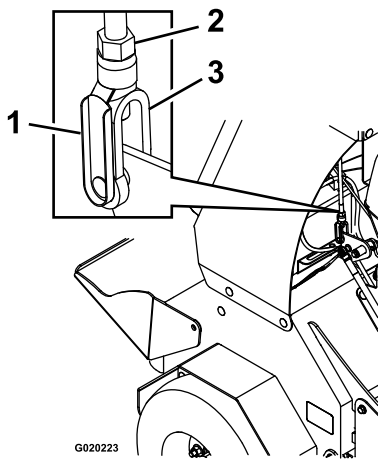

Figure 53
- B. Remove the spring-clevis pin from the fork fitting of the traction-control linkage (Figure 53).
- F. Remove the spring-clevis pin, rotate the turnbuckle clockwise 1 additional turn, and insert the spring-clevis pin (Figure 53).
- If the control lever **contacts the reference bar**, rotate the fork fitting (Figure 53) counterclockwise (as viewed from the top of the machine).
- If the control lever **does not contacts the reference bar**, rotate the fork fitting (Figure 53) counterclockwise.
- D. Install the spring clevis pin (Figure 53) and move the control lever forward.